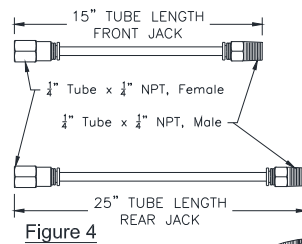

Figure 4
1. When coiled hoses are attached to the jacks with the clamps provided, cut the provided $1/4"$ OD plastic tubing into lengths shown in **Figure 4** and attach fittings by pushing onto end of tubing.